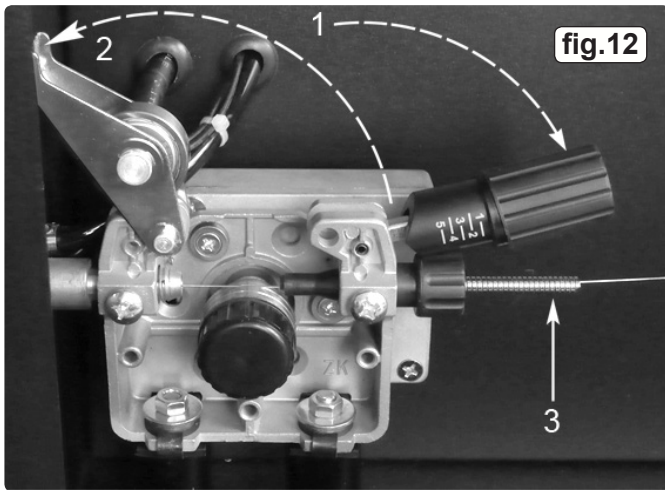

fig.12
3.9 FEED WIRE THROUGH TO TORCH. Referring to fig.12 open the wire feed mechanism by pushing the locking/wire tension knob (1) down to the right allowing the pressure roller carrier (2) to spring up revealing the feed roller. Ensure that the required feed groove (0.6 or 0.8) is in line with the wire path. See Section 3.12 on how to reverse or change the roller.
- 3.12.1 Referring to fig.12, open the wire feed mechanism by pushing the locking/wire tension knob (1) down to the right allowing the pressure roller carrier (2) to spring up revealing the feed roller.
- 6.5. **GAS CUP** The gas cup must also be kept clean and free from spatter. Build up of spatter inside the gas cup can cause a short circuit at the contact tip which will result in either the fuse blowing on the printed circuit card, or expensive machine repairs. To keep the contact tip free from spatter, we recommend the use of anti-spatter spray (MIG/722308) available from your Dealer. Refer to fig.12 and section 3.9 for removal and replacement.